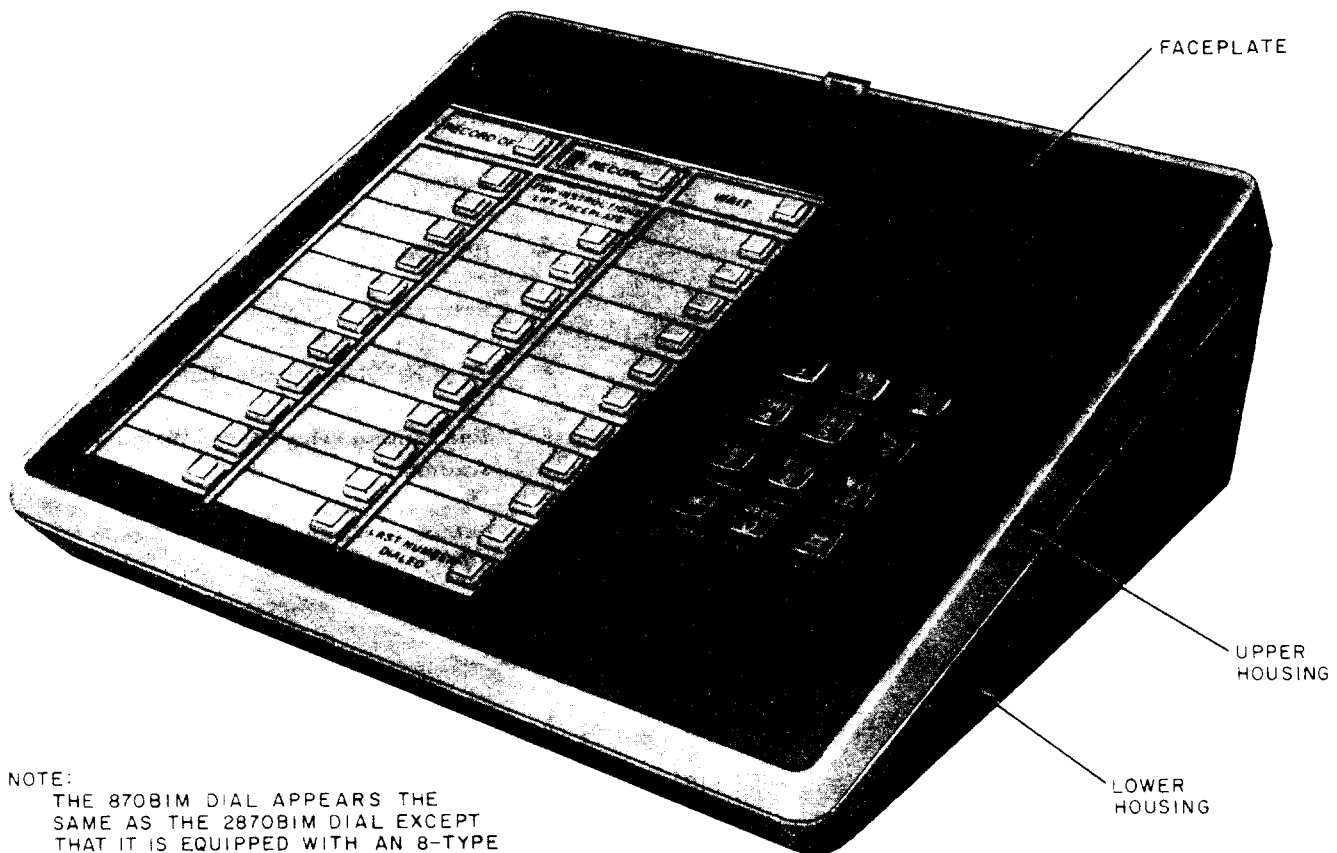

Fig. 1—2870B1M Dial (See Note)
1.01 This section contains information on the 870B1M (rotary service) and the 2870B1M (TOUCH-TONE service) dials, Fig. 1.